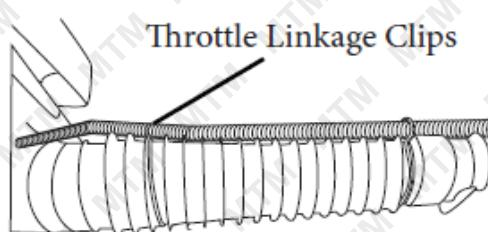
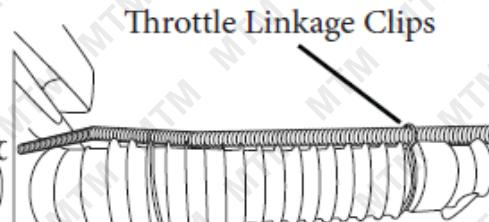

Fig.5
Fig.6
5. Attach the throttle linkage clips to both ends of the flex tube to secure the throttle cable (Fig. 5 and Fig. 6).